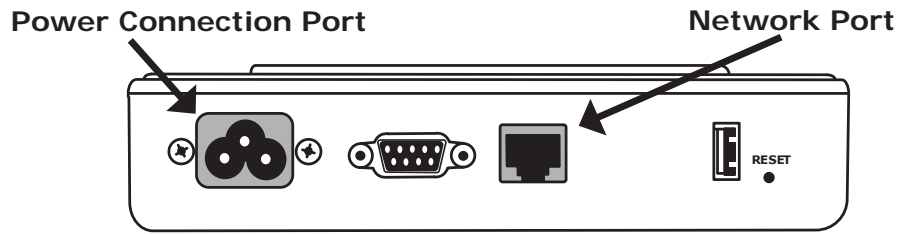

Figure 6, MagWeb GT Cable Connections
1. Connect the supplied power cable to the MagWeb GT's Power Connection port (Figure 6).
2. Connect the supplied CAT5 network cable to the MagWeb GT's Network port (Figure 6).